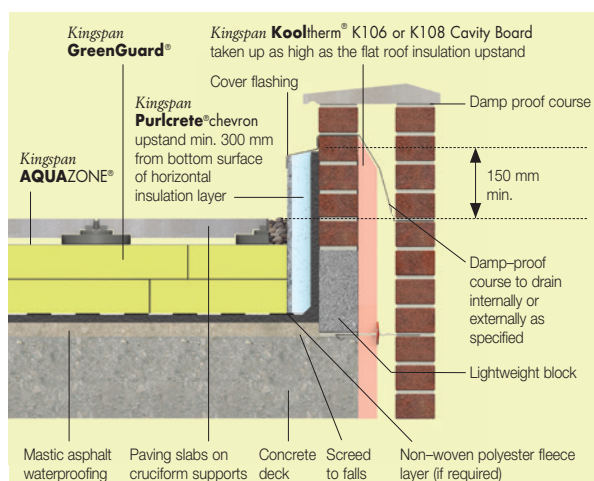

Figure 10 – Parapet Abutment
- Lightweight aggregate blockwork to the inner leaf of wall constructions can help to improve thermal performance at junctions generally and where used for the inner leaf of parapet walls it can help to reduce losses (see Figure 10).